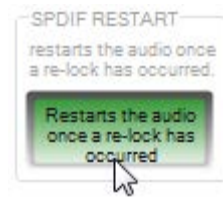

Figure 38. Activating the SPDIF_RESTART Register
- c. Enable the SPDIF_RESTART register by clicking **Do not restart the audio once a re-lock has occurred** in the **SPDIF RESTART** box. (Upon clicking this button, the text displayed on the button changes to **Restarts the audio once a re-lock has occurred** and the button color changes from red to green (see Figure 38).)